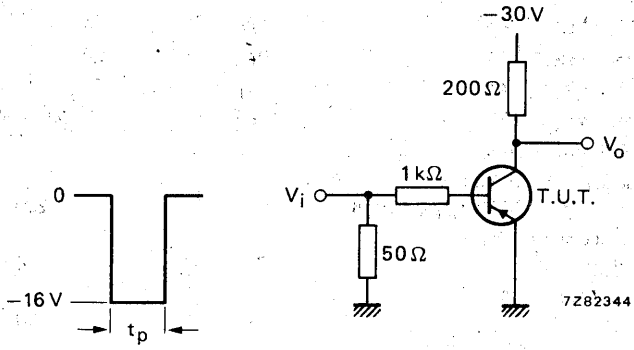
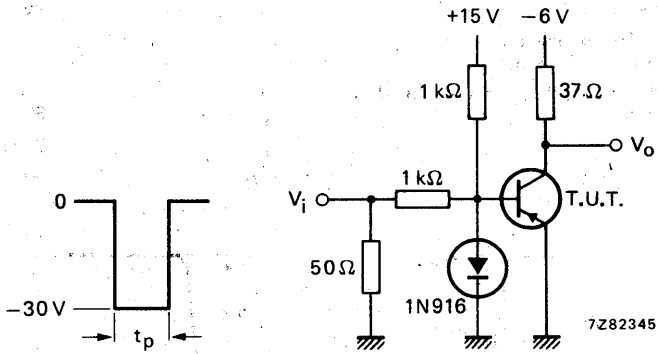

Fig. 3 Turn-on switching time test circuit.
Fig. 4 Turn-off switching time test circuit.
- IC = 150 mA; -IB = 15 mA; (see Fig. 3)
to cut-off with +IBM = 15 mA (see Fig. 4)
Fig. 3 and Fig. 4